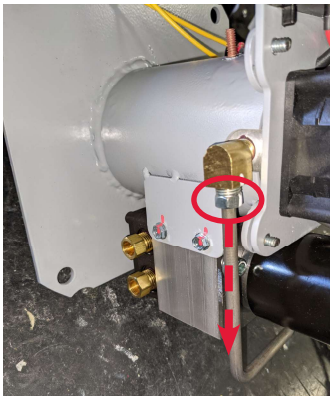

Figure 115
12. Using a $\frac{7}{16}$ " wrench, place and tighten the nut on the fuel fitting to reinstall the fuel line as shown in Figure 115.